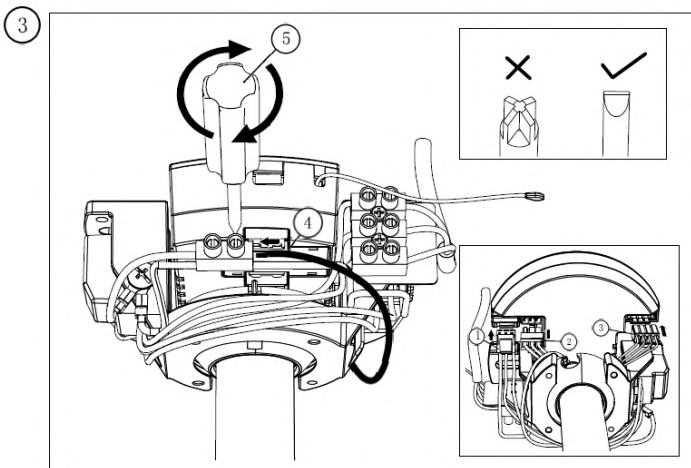

Fig. 5.3
3. Connect the wiring (Fig. 5.3 & **Refer to the wiring diagram in Fig. 6 for more information**)